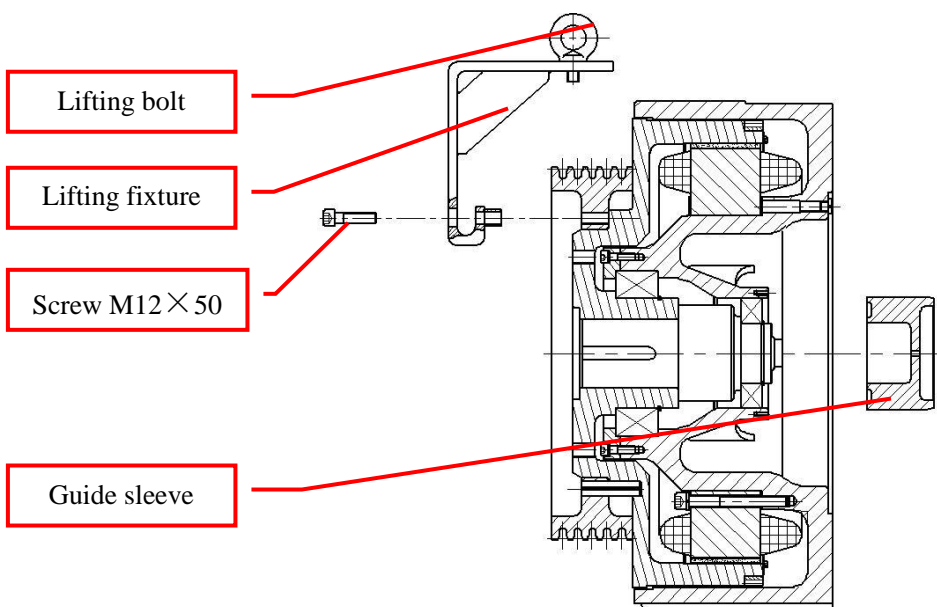

Figure 60: Attach lifting equipment and guide sleeve
7. Install a lifting fixture onto the drive sheave, and screw in screw M12×50 to secure it. Connect a lifting rope to the lifting bolt. Install guide sleeve to withstand the bearing. See Figure 60.